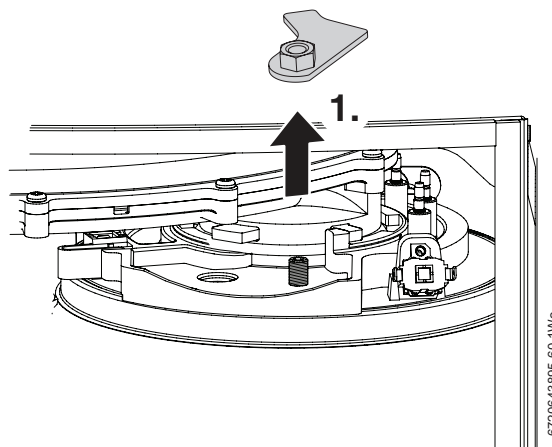

Fig. 85 Securing nut
1. Refer to figure 85 and undo the securing nut on the top of the heat exchanger and remove the retaining plate assembly.